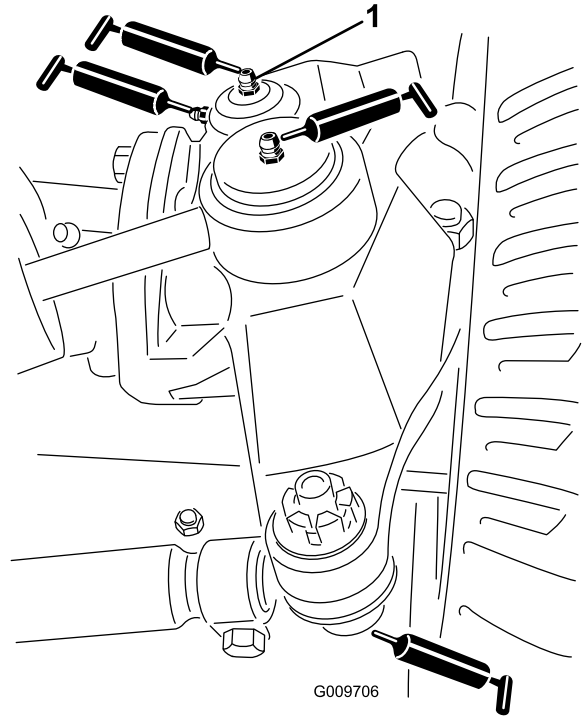

Figure 43
- Steering cylinder ball joints (2) (Figure 43)
- Tie rod ball joints (2) (Figure 43)
- King pin bushings (2) (Figure 43). **The top fitting on the king pin should only be lubricated annually (2 pumps).**